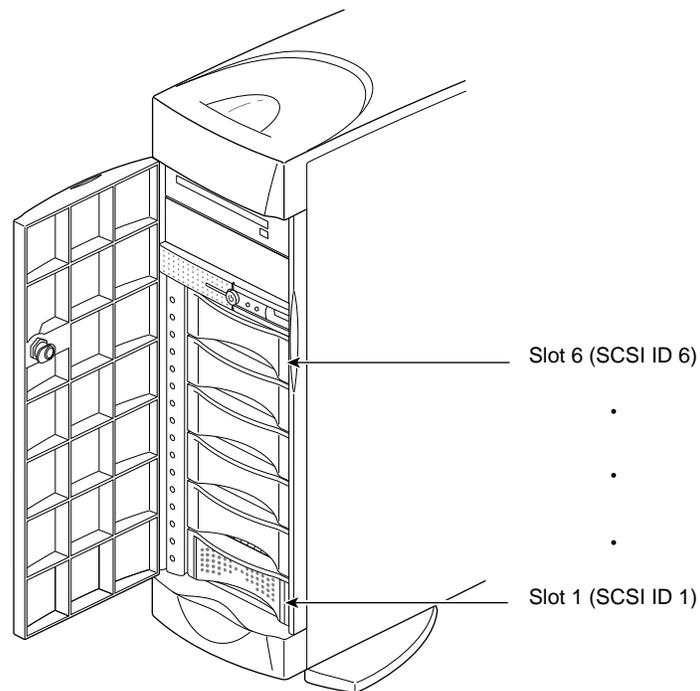

Figure 6-14 3.5-Inch Drives Numbering in an Origin200 System
2. Locate an available slot for the peripheral. Figure 6-14 shows how the drives are numbered.